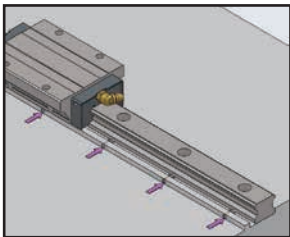

Fig 1.11.9 Tightening Set Screws
(C) Tighten the Linear Guide rail set screws in sequence, until they lightly contact the rail-mounting side surface.(Fig 1.11.9)